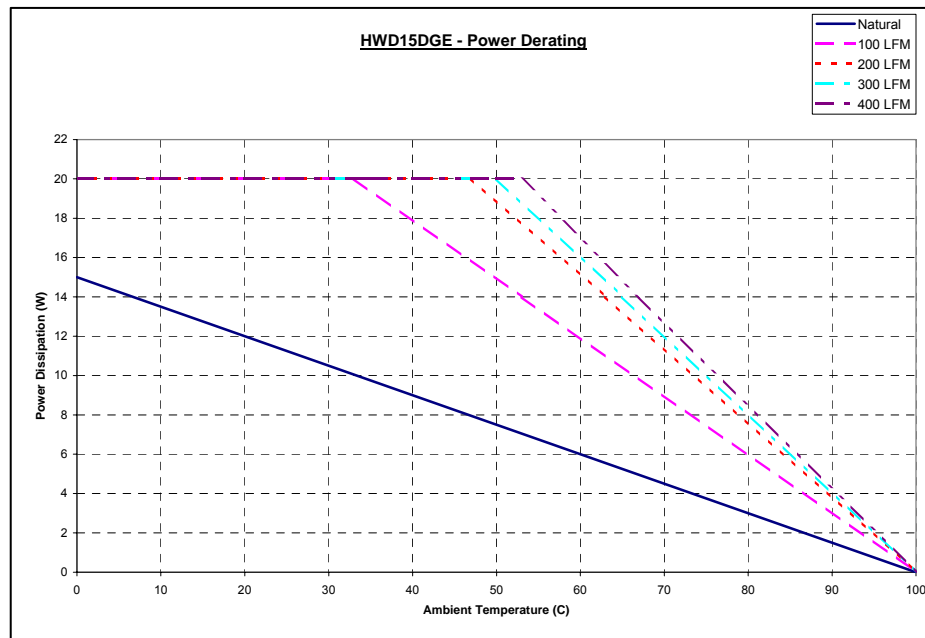

Figure 4. Power Derating Curve
Increasing airflow over the converter enhances the heat transfer via convection. Figure 4 shows the maximum power that can be dissipated by the converter without exceeding the maximum case temperature versus local ambient temperature (TA) for natural convection through 400 ft/min.
Systems in which these converters are used generate airflow rates of 50 ft/min due to other heat dissipating components in the system. Therefore, the natural convection condition represents airflow rates of approximately 50 ft/min. Use of Figure 4 is shown in the following example.
Determine PD (Figure 4): PD = 13 W.
Determine airflow (Figure 4): v = 200 ft/min